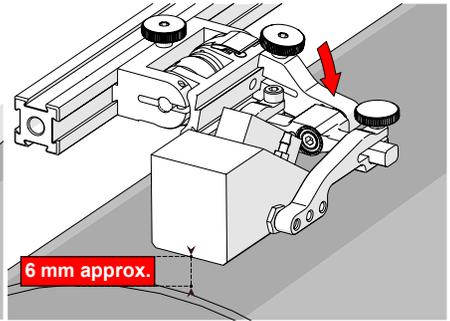

Fig. 156 - Lower to scanning surface
2. Push the probe holder yoke down toward inspection surface until the wedge is approximately 6 mm ($\frac{1}{4}$ in) above the inspection surface (Fig. 156).